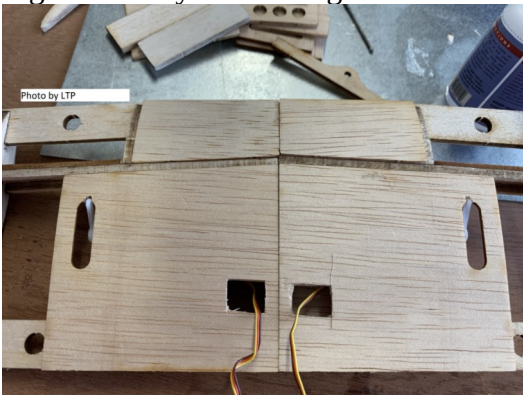

Figure 5 - Servo Wire Holes
14. If not there, cut a hole for the servo wires to extend into the fuselage. This should be done on the bottom of the wing. Feed the servo wires thru the hole. See Figure 5 and 6.